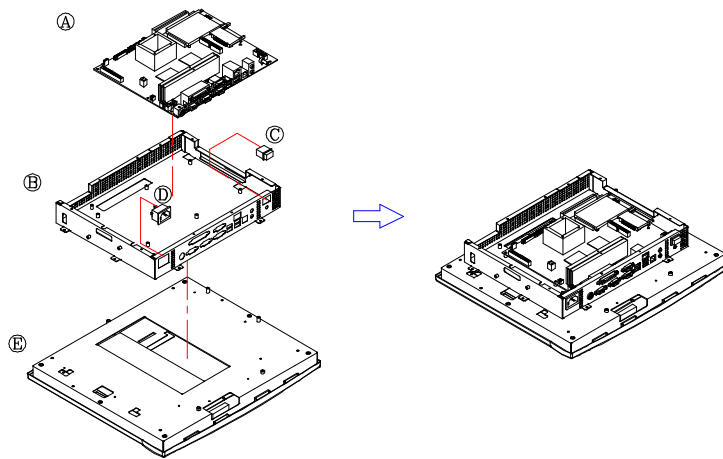

FIGURE 5-5: LP 1500 MOTHERBOARD ASSEMBLY
1. Refer to Figure 5-5. There is a cutout at the left upper side of the chassis. The I/O outlets are at the bottom side of the chassis. Make sure the I/O side of the chassis near you.
5. Insert the power switch (C) to the small rectangle opening at the right bottom side of the chassis. The other end of the switch cable is to be connected to the 2-pin POWER ON switch, **CN3** on the motherboard.
6. Insert the 3-pin AC inlet (D) to the small rectangle opening at the right bottom side of the chassis.